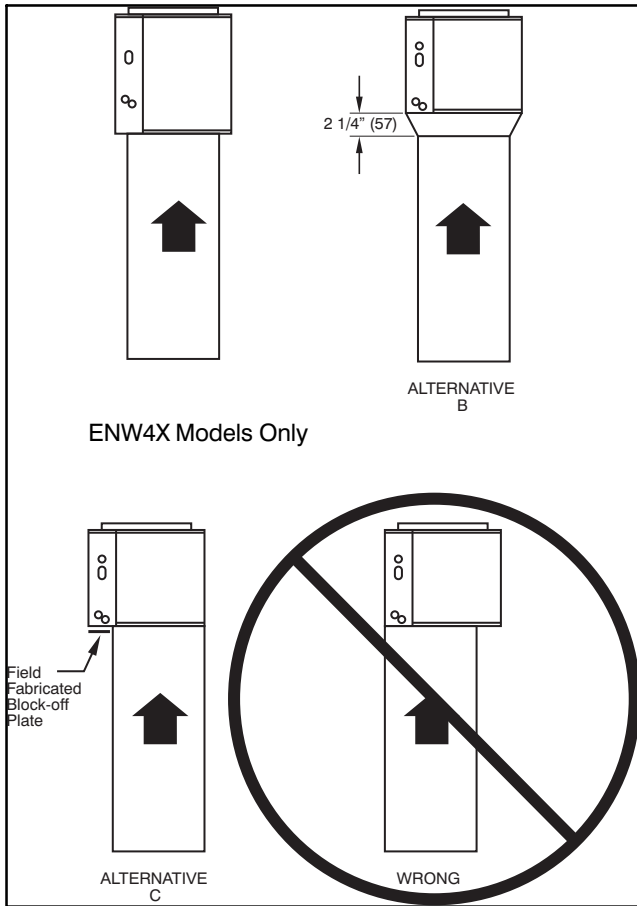

Figure 4 - Alternative Coil Mounting Positions
2. Remove coil from packaging and place on top of furnace with 1-5/8 inch (41 mm) overhang on both sides. See **Figure 4, Alternative A**.
2. Place transition on top of gas furnace. See **Figure 4, Alternative B**. Secure with sheet metal screws. Place coil on top of transition. Make sure coil rests evenly on top of transition and gas furnace.
1. Notch support rail on underside of coil cabinet to provide clearances for gas furnace flange. This rail is not visible from front of coil. To locate position of notch, place coil directly on top of gas furnace with overhanging portion entirely on left side as in **Figure 4, Alternative C**. Mark location of gas furnace flange on coil casing. Remove coil from top of furnace. Using tin snips, make a notch in rail large enough to allow clearance for gas flow furnace flange.
3. Prepare and install block-off plate. See **Figure 4, Alternative C**. Using field-supplied sheet metal, cut a block-off plate to be attached to bottom left side of coil casing. This plate prevents air leakage from overhanging portion of coil. Attach plate using sheet metal screws.